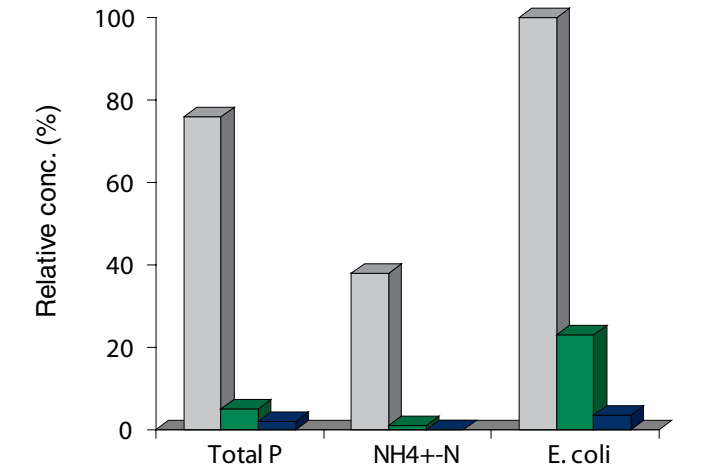

Figure 1.
- It also shows nitrogen levels in the drainage are minimised to almost nil (figure 1)